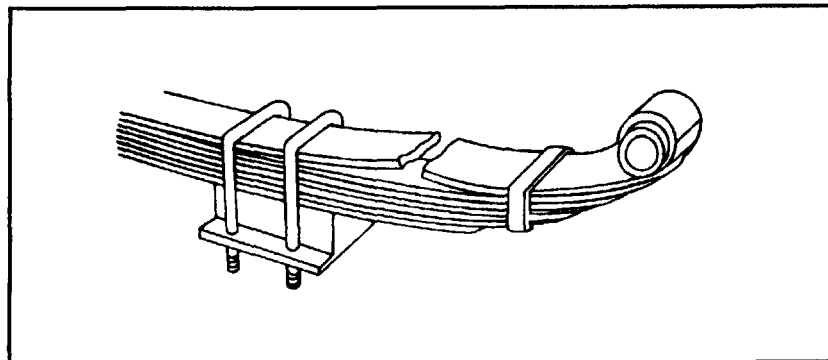

Figure 2-11. Safety defect: broken leaf in leaf spring
- (5) Missing or broken leaves in any leaf spring (see Figure 2-11, page 2-41). If one-fourth or more are missing, it will put the vehicle out of service. Any defect could be dangerous.
- (6) Broken leaves in a multileaf spring or leaves that have shifted so they might hit a tire or other part (see Figure 2-11).